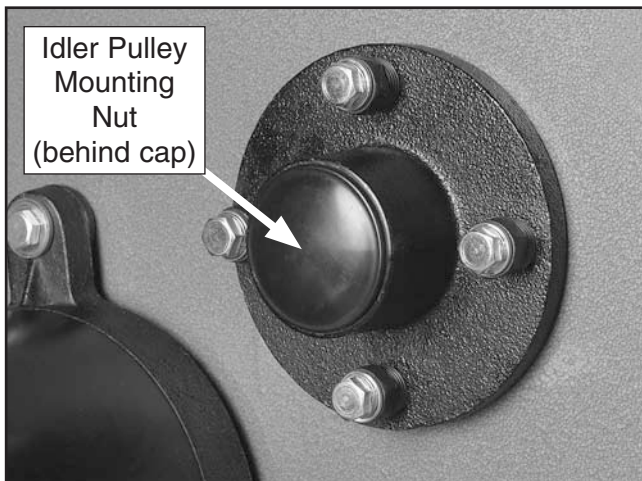

Figure 46. Location of idler pulley mounting nut.
3. Loosen the idler pulley mounting nut behind the cap shown in **Figure 46**.